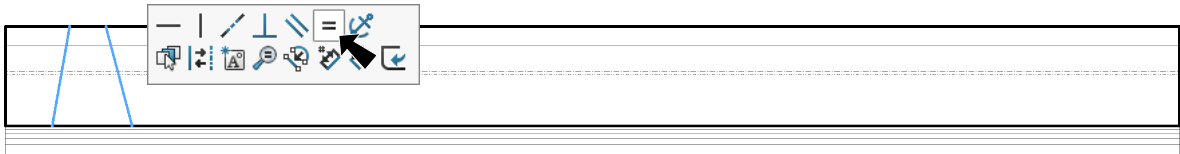

Fig. 24
Step 9. **Ctrl click both angled lines** to select both. Release Ctrl key and click **Make Equal**  on the context toolbar, **Fig. 24**.